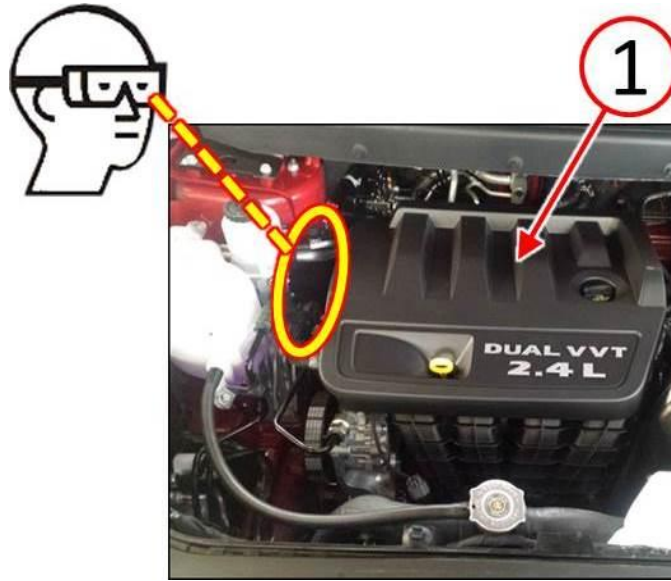

Fig. 1 Remove Engine Cover For Inspection Access
1. Remove the engine cover (1) for inspection access (Fig. 1).